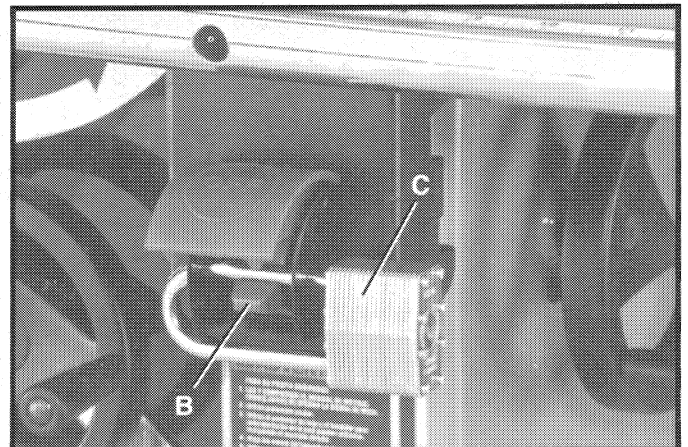

Fig. 63
1. **IMPORTANT:** We suggest that when the saw is not in use, the on-off switch trigger (B) be locked in the "OFF" position using a padlock (C) through the two holes in the switch plate, as shown in Fig. 63.